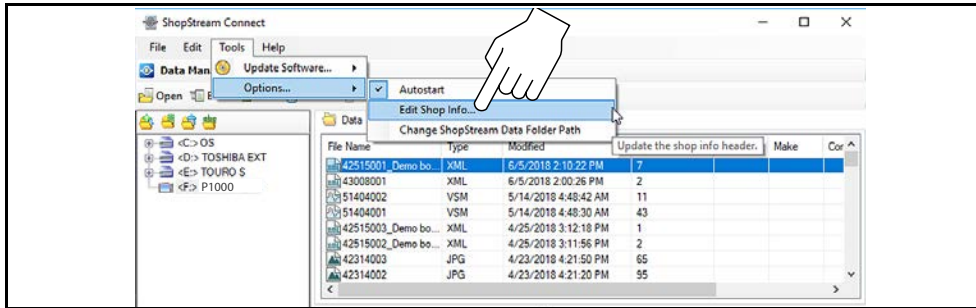

Figure 8-8
1. From ShopStream Connect, select **Tools > Options > Edit Shop Info** (Figure 8-8).